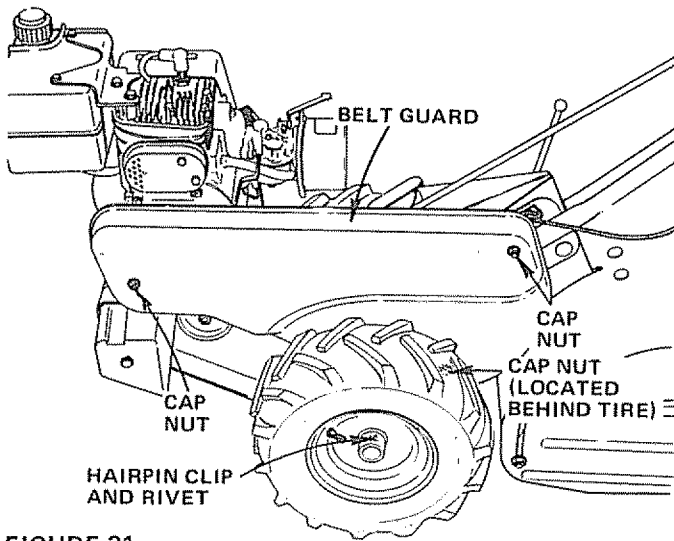

FIGURE 31
1. Remove Hairpin Clip and Rivet (Fig. 31) from Hub of L.H. Wheel. Pull Wheel out from Tiller approximately 1 - 1/2".
2. Remove Belt Guard by removing three Cap Nuts (Fig. 31) so that Belt Guard can slide straight out away from Engine.
7. Replace Belt Guard and Cap Nuts (Fig. 31).